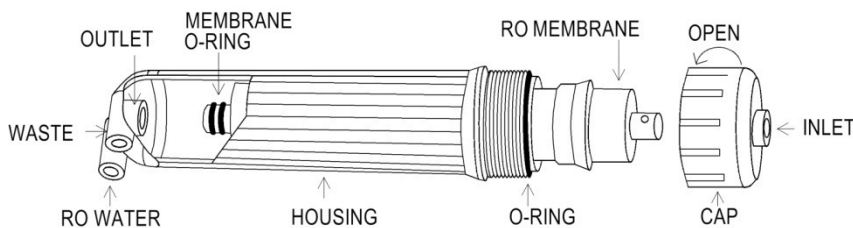

Figure 12
- Step 6. e.** Before twisting the housing cap back on, make sure the **O-ring is seated at the end of the membrane housing**, as shown in figures 12 and 13. **This is very important to avoid leaking and damage to the O-ring.**